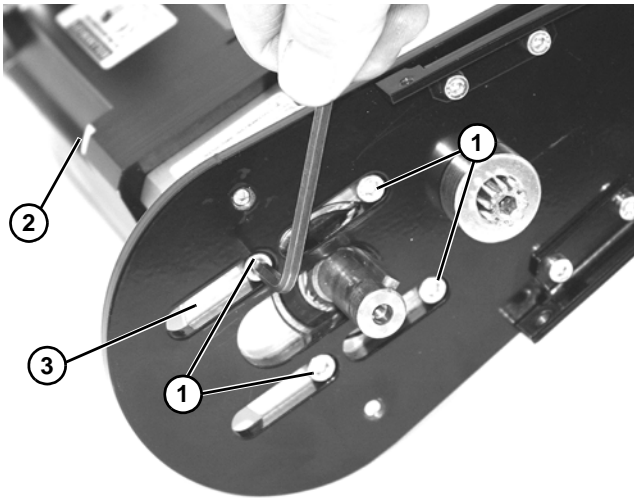

Figure 57
- Remove four hex head screws (**Figure 57, item 1**), and remove motor (**Figure 57, item 2**) from mounting plate (**Figure 57, item 3**).
- To install motor, mount with four hex head screws (**Figure 57, item 1**).